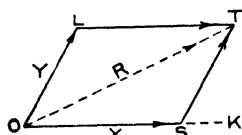

Fig. 19
The resultant is the diagonal which acts from the point of application of the original forces. In Fig. 19, let X and Y be two forces acting at O, represented by OS and OL respectively. Now from (C), OT is the resultant = R. By the law of cosines